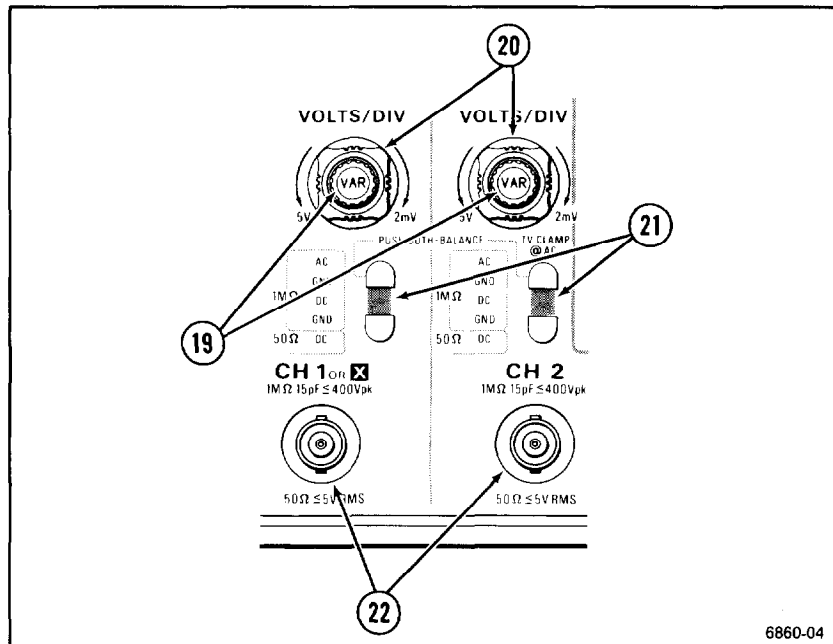

Figure 5-3. Channel 1 and Channel 2 controls and connectors.
Refer to Figure 5-3 for the location of items 19 through 22.
- ① **VAR Controls** Provide continuously variable, uncalibrated deflection factors between the calibrated settings of the VOLTS/DIV switches. These controls vary the deflection factors from calibrated (fully clockwise detent position) to at least 2.5 times the calibrated deflection factor (fully counterclockwise position). When out of the calibrated detent, a greater than (>) sign appears in front of the associated VOLTS/DIV readout display.
- ② **VOLTS/DIV Switches** Select vertical deflection factor settings in a 1-2-5 sequence with 11 positions. The VAR control must be in the detent (fully clockwise) position to obtain a calibrated deflection factor. Basic deflection factors are from 2 mV per division to 5 mV per division. The switches can rotate continuously, but have no effect beyond the extreme settings. Deflection factors shown in the CRT readout reflect actual deflection factors when Tektronix attenuation-coded probes are connected to the inputs.